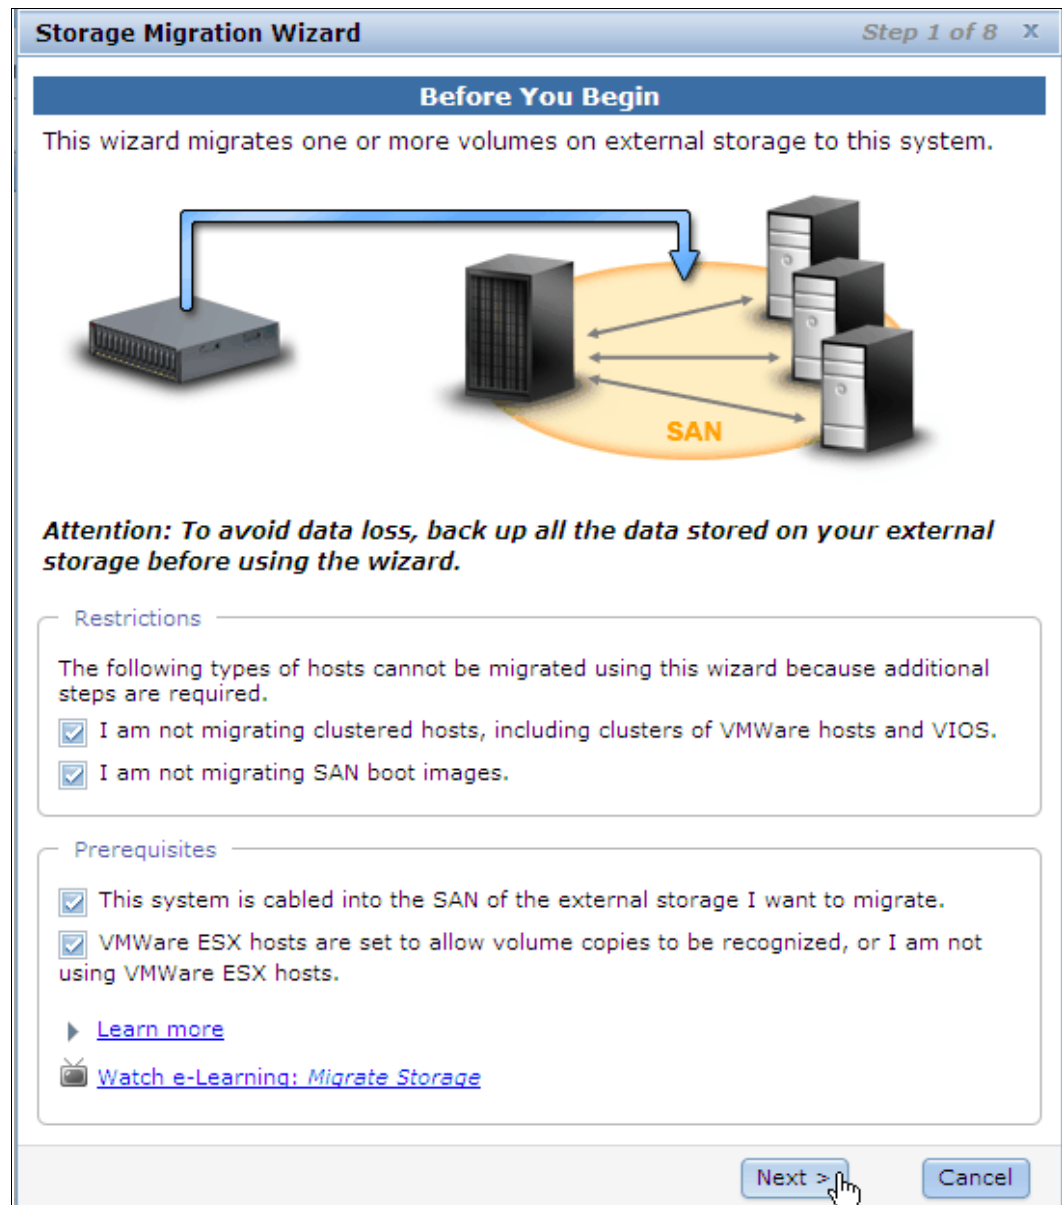

Figure 6-24 Storage migration wizard: Step 1
4. Follow step 1 of the storage migration wizard and check all of the restrictions and prerequisites, Figure 6-24. Click **Next** to continue.